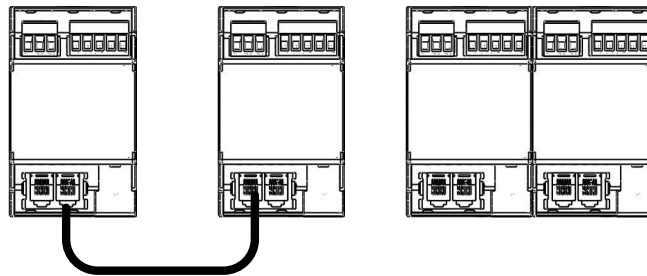

Figure 7
4.3 CS-Bus Wiring Directions (Multiple Controllers connected to each Other). (See Figure 7 below.)